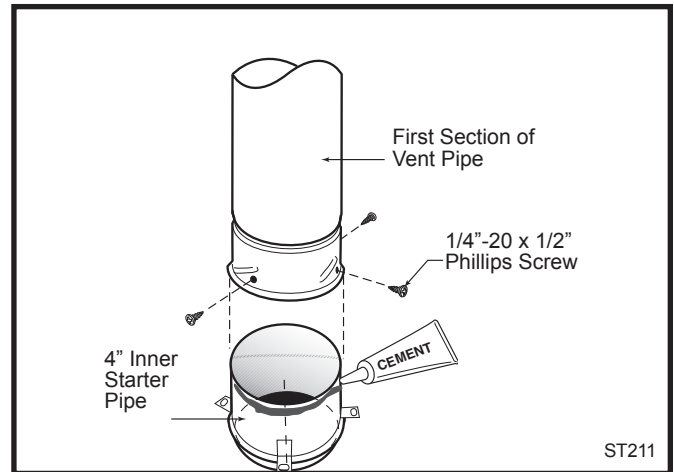

Fig. 19 Connect the inner starter with the next section of inner vent pipe.
- Drill three pilot holes into the Inner Starter and secure the assembly with three sheet metal screws. (Fig. 19)